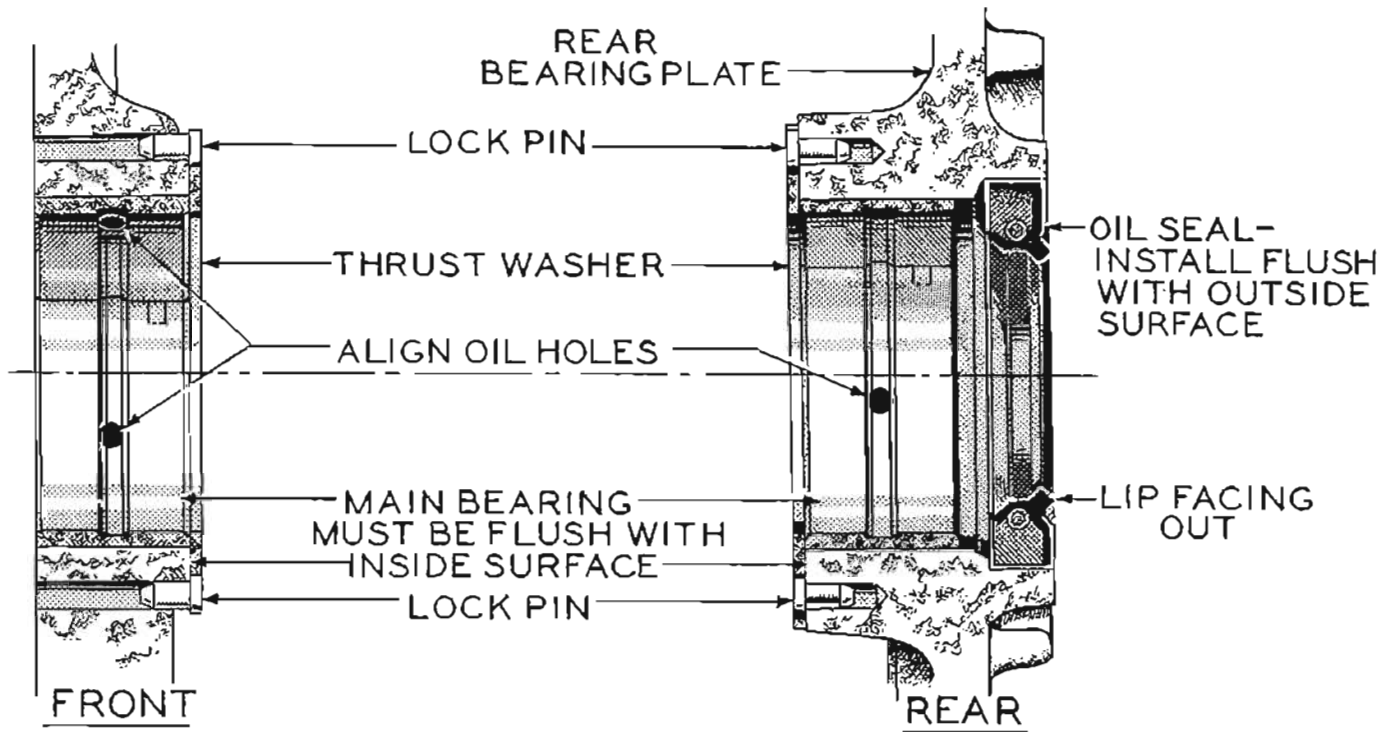

Figure A-45. Main Bearing Installation
(2) Inspection. Thoroughly clean the crankshaft and blow out all oil passages with compressed air. Check all journals for out-of-round, taper, grooves, or ridges. Pay particular attention to ridges or grooves on either side of the oil hole areas. Unusual conditions here often point to previous neglect of oil cleanliness precautions. If the journal dimensions are not within the limits or the journals are scored, replace the crankshaft.
(3) Main Bearing. If the main bearing clearances (para. 17 g.) are greater than the limits or the bearings are worn, grooved or broken, replace them. Precision replacement bearing inserts and thrust washers are available for all main bearings. Don't attempt to ream the bearings. Align and press the new bearings halves into the front and rear housings, insert the center bearing when the crankshaft is reinstalled. (fig. A-45)
(4) **Rear Oil Seal** (fig. A-45). The crankshaft rear oil seal is in the rear bearing plate. If damaged, drive it out from the inside of the plate. Using the oil seal installing tool, install a new seal with the open side facing inward. Drive the new seal flush with the rear surface of the bearing plate. Leave the seal installer on during bearing plate installation for protection.